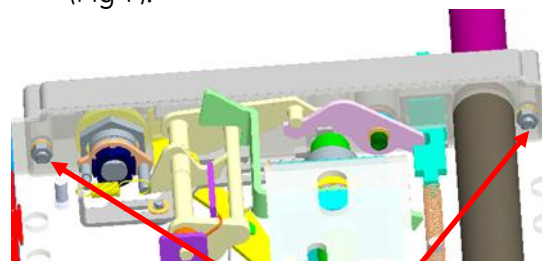

Figure 7
- Assemble back the front panel and fix them using two spring washers and two M5 nuts (Fig 7).